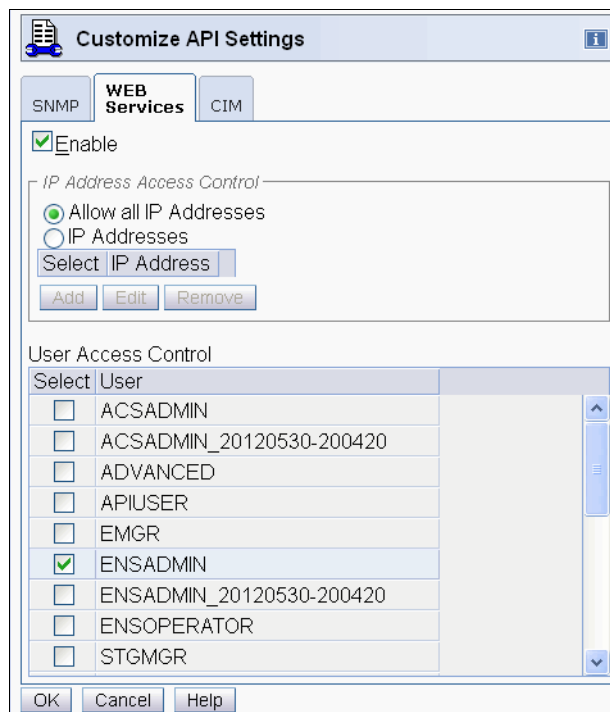

Figure 3-21 Customize API Settings: WEB Services
2. From the WEB Services tab, you can enable or disable the Web Services API and control the IP addresses and user access as shown in Figure 3-21.